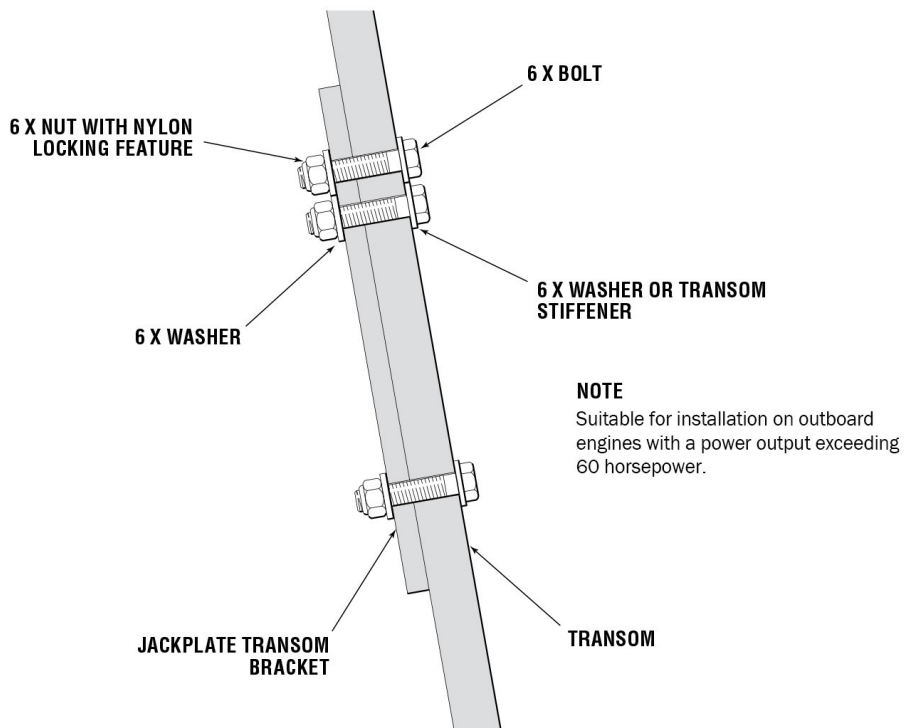

Figure 8. Jackplate to transom connection for 10" or 12" setbacks, or for outboards greater than 250 HP.
3. If the Jackplate setback is 10 inches or more, or if the outboard engine output is 60 horsepower or more, it is recommended to use 6 mounting bolts at the transom connection. Additional mounting bolts should be used in the upper holes on the Jackplate hole pattern. See figure 8.